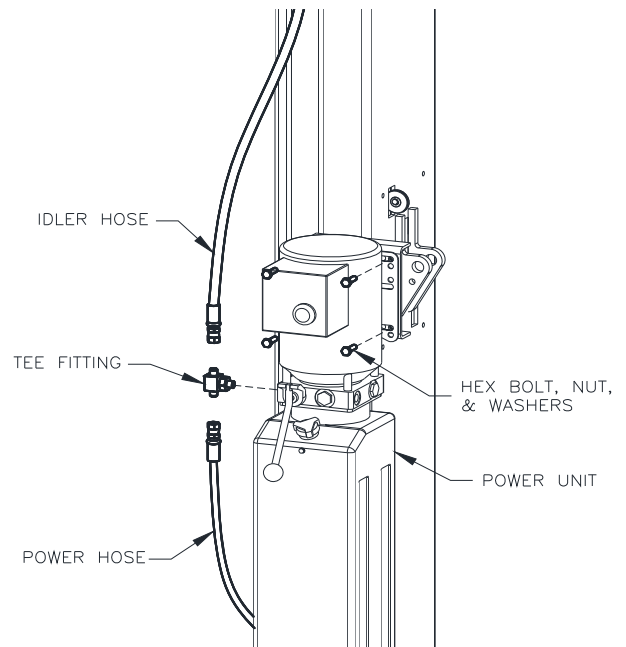

Fig 16 – Power Unit Assembly
- 32) Remove the Plug from the left side and relocate it to the right side. Assemble Power Unit, Tee Fitting, and hoses together as shown in **Fig 16**. Use (4 sets) M8 bolt, nut, flat washer, and lock washer to attach Power Unit to column bracket.